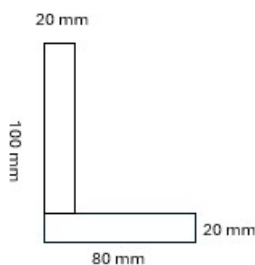

Figure :5
(c) Find centre of gravity of L beam as shown in figure 5.
- (c) A 6 m simply supported beam having cross section as shown in figure 5 carries a point load of 80 at centre of beam. Draw shear stress distribution diagram across the section at point of maximum shear force, indicate values at all important point. **07**